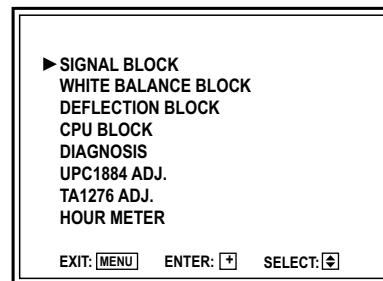

Fig. 3
7. Check that the initial values of the items in the SERVICE MENU (Fig. 3). If any item is set differently, set it as required. For the setting method and the initial values, see the corresponding pages for "SERVICE ADJUSTMENTS" in this manual.